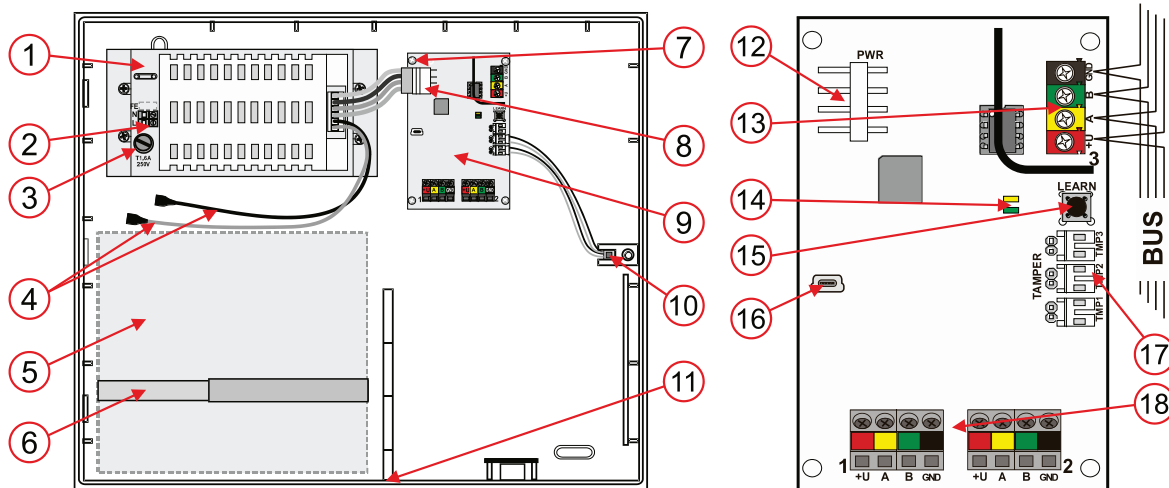

Figure 3: Description of internal parts of the product
1. Punch the holes in the PLV-CP-L (11) plastic housing for bus cables and supply cable.
2. Install the rear tamper contact (10).
4. Install the JA-107PWR power supply (1) and booster module (9) inside the housing and fix it with 4 screws (7) to the position marked on Figure 3.
5. Plug the front and rear tamper contact (10) into the connectors (17) on the module. Block any unused tamper inputs by jumper (pins are next to every connector on the left side).
6. Connect the bus cable from the control panel (13) and bus output cables (18).